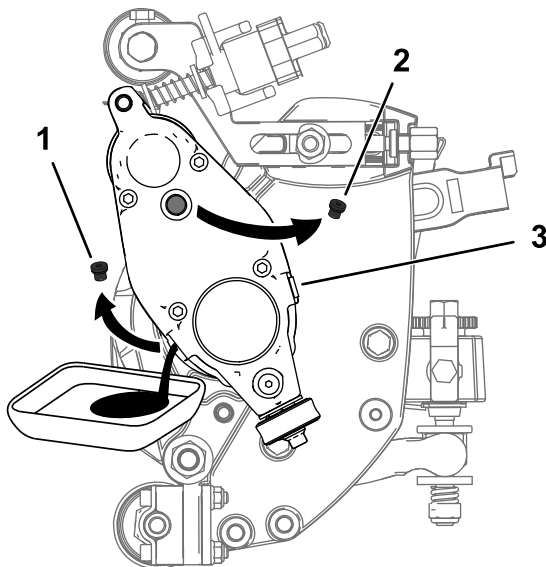

Figure 31
5. Tip the cutting unit vertically until the drain port is at the bottom to ensure complete drainage (Figure 31).